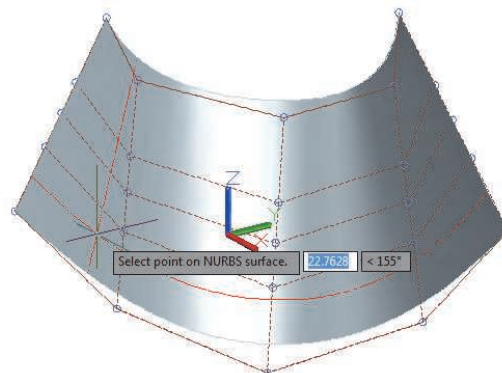

Figure 4–49
15. At the *Select a grip on the edit bar* prompt, select the square grip at the control vertex point's UCS origin point, move the cursor out away from the surface, as shown in Figure 4–50, and select a point. Note that the surface touches the point.